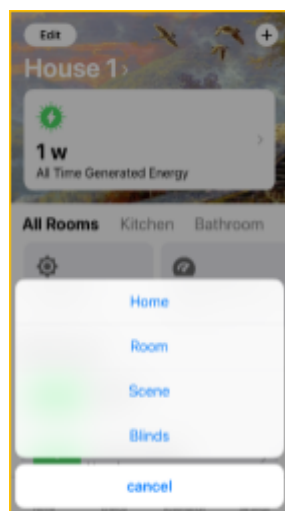

Figure 21
10.6.2. Select **Room** from the menu options (Fig. 21).